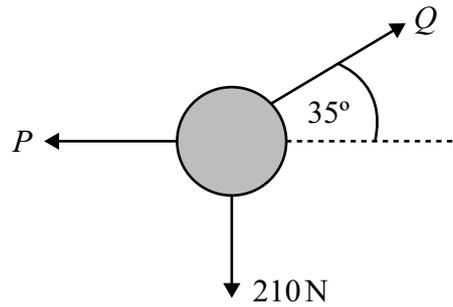

Fig. 5
- 6 (a) Fig. 5 shows a particle suspended in equilibrium. The particle is subjected to a vertical downward force of 210 N, a horizontal force of  $P$  N and a force of  $Q$  N acting at an upward angle of  $35^\circ$  to the horizontal.